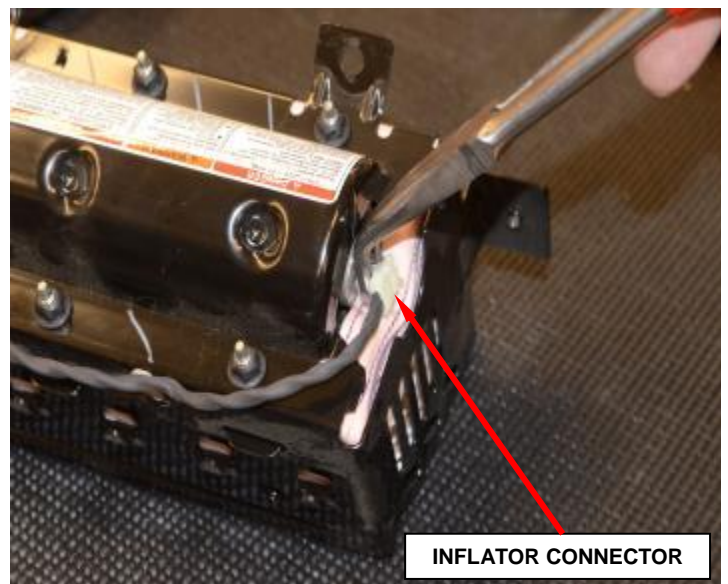

Figure 19 – Inflator Connector
- c. Disconnect the first inflator connector from the end of the inflator using pliers (Figure 19).